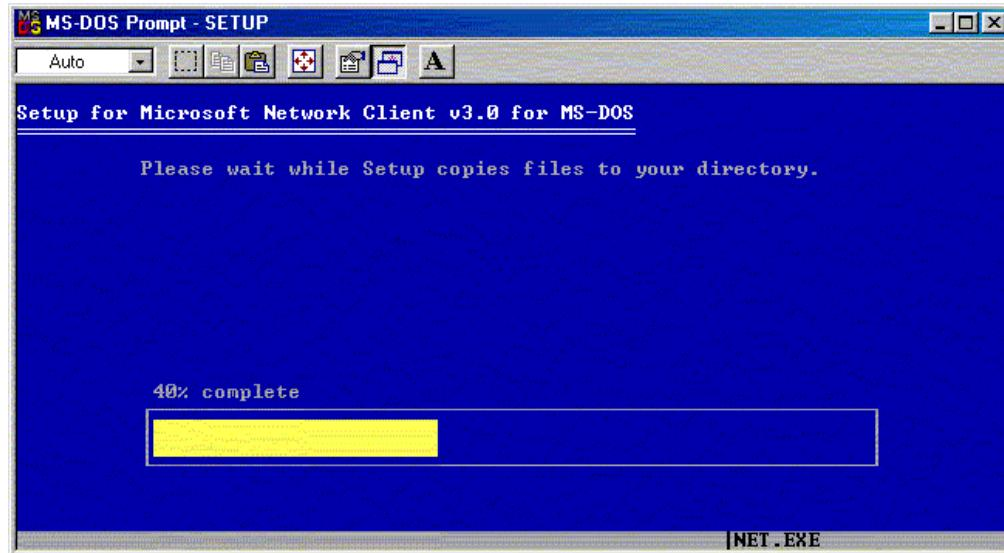

Figure A-15: File copy progress bar
17. Reinsert the first diskette and press the **Enter** key. A progress bar similar to Figure A-15 is displayed.